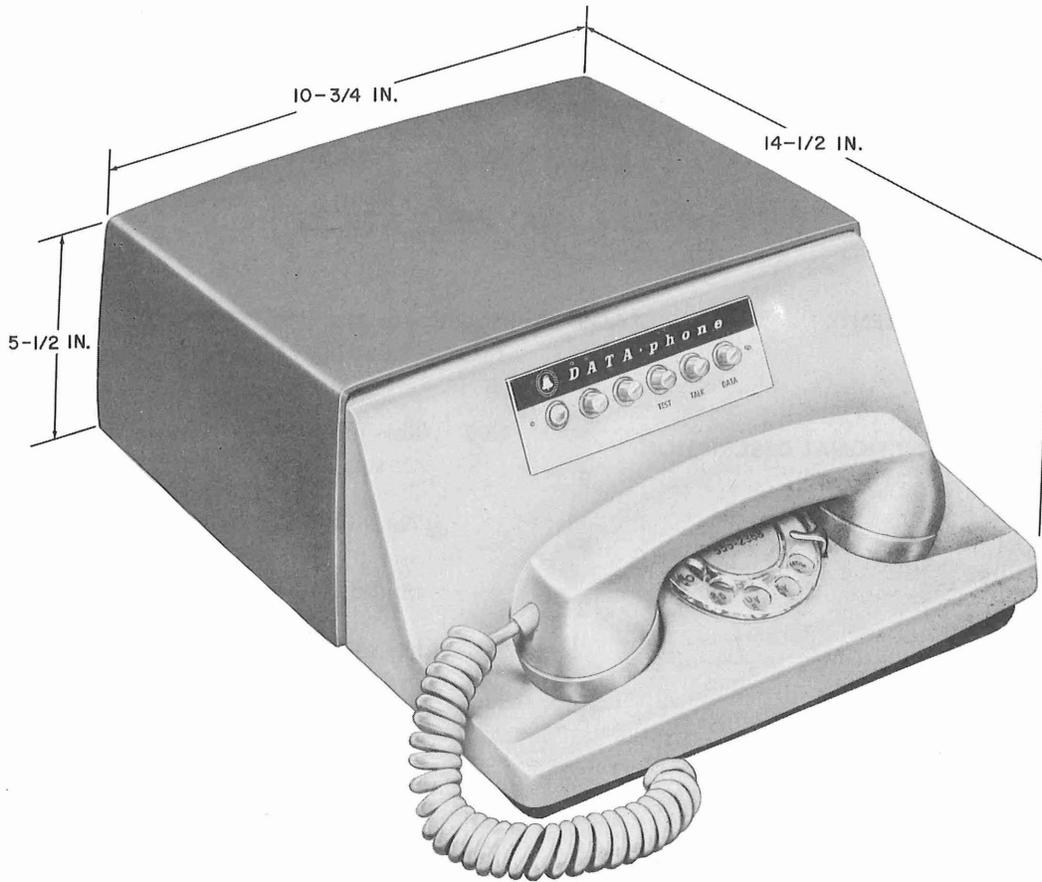

Fig. 1—Data Set J1D401J, 401J1, 401J2, 401J3, 401J6, or 401J7—Front View
1.01 Data Set 401J-type (Fig. 1 and 2) is an integrated data set designed for use in DATA-PHONE® service. It can be connected
3.01 The operation of Data Set 401J-type is controlled by the pushbutton key switches on the front of the data set (see Fig. 1 and 2).
3.02 When the spare pushbutton key positions on the front of the data set (see Fig. 1 pickup, telephone (not data) calls can be originated and received in the usual manner on spare lines and 2) are connected for spare telephone line